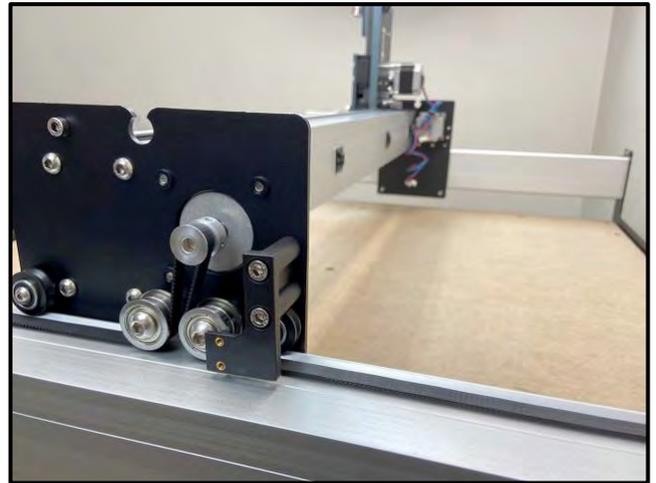

Figure 29
1. Install the Y-Axis proximity switch mount to the outside of the Y2-carriage. See **Fig. 29**.
- b. Use a 4mm hex key and two (2) M5×35mm SHCS to secure.